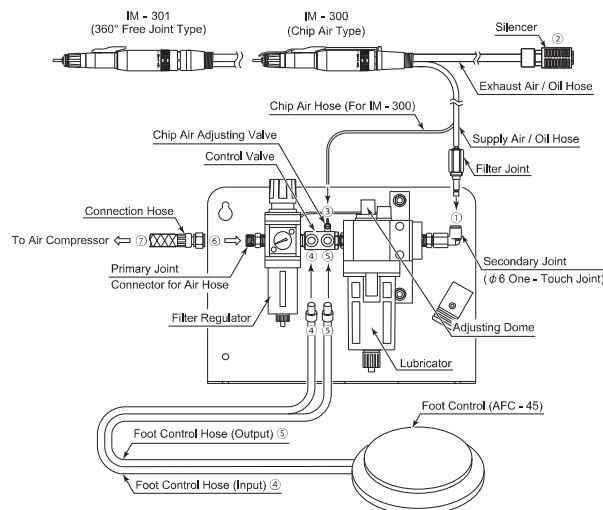

Fig. 4 Connection of Air Line Kit " AL - H1207F (Sold Separately) "
- Connect the Filter Joint of the Air Motor to the Secondary Joint (φ 6 One - Touch Joint) on the Air Line Kit. (Fig. 4 ①)
- Place " Exhaust Air Silencer / Oil Hose " into an empty container (Fig. 4 ②). (Exhaust outlet air and oil from the Silencer.)
* If using the ROTUS Air Motor " IM - 300 ", insert the Chip Air Hose to the Chip Air Adjusting Valve on the Control Valve (Fig. 4 ③).
- Insert the Foot Control Hose (Input) ④ to the One - Touch Joint ④ of the Control Valve (Fig. 4).
- Insert the Foot Control Hose (Output) ⑤ to the One - Touch Joint ⑤ of the Control Valve (Fig. 4).
- (1) Connect the Connection Hose (Air Line Kit's Standard Accessory) to the Primary Joint of the Air Line Kit. (Fig. 4 ⑥)
- (2) Connect the other side of the Connection Hose (Air Line Kit's Standard Accessory) to the compressor. (Fig. 4 ⑦)